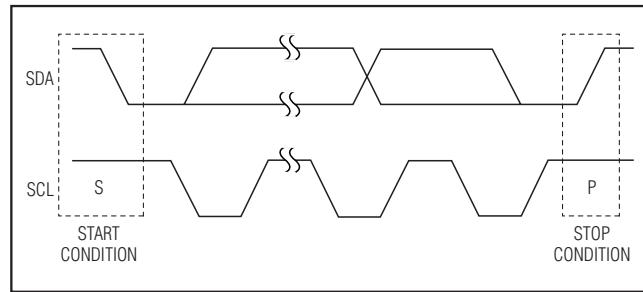
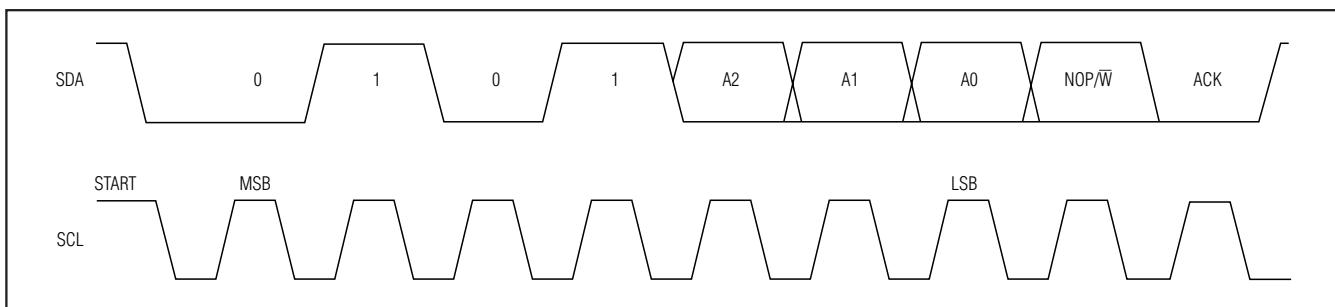

Figure 3. START and STOP Conditions
Figure 4. Slave Address
Each transmission consists of a START (S) condition (Figure 3) sent by a master, followed by the MAX5477/MAX5478/MAX5479 7-bit slave address plus the NOP/W bit (Figure 4), 1 command byte and 1 data byte, and finally a STOP (P) condition (Figure 3).
communicating with the slave. The bus is then free for another transmission (Figure 3).
The MAX5477/MAX5478/MAX5479 have a 7-bit-long slave address (Figure 4). The 8th bit following the 7-bit slave address is the NOP/W bit. Set the NOP/W bit low for a write command and high for a no-operation command.